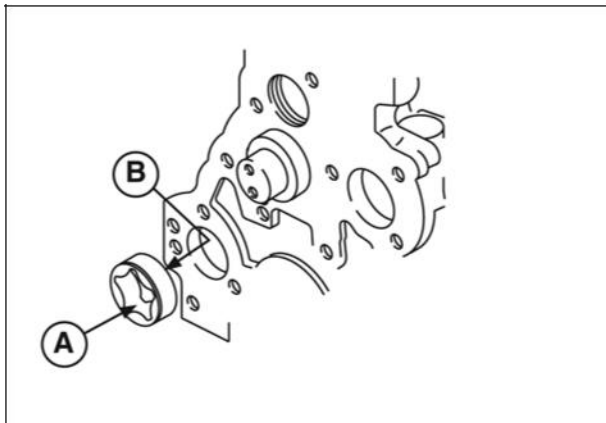

Figure 15
1. Clean and lubricate oil pump rotor (A, Figure 15) with engine oil and install on cylinder block.